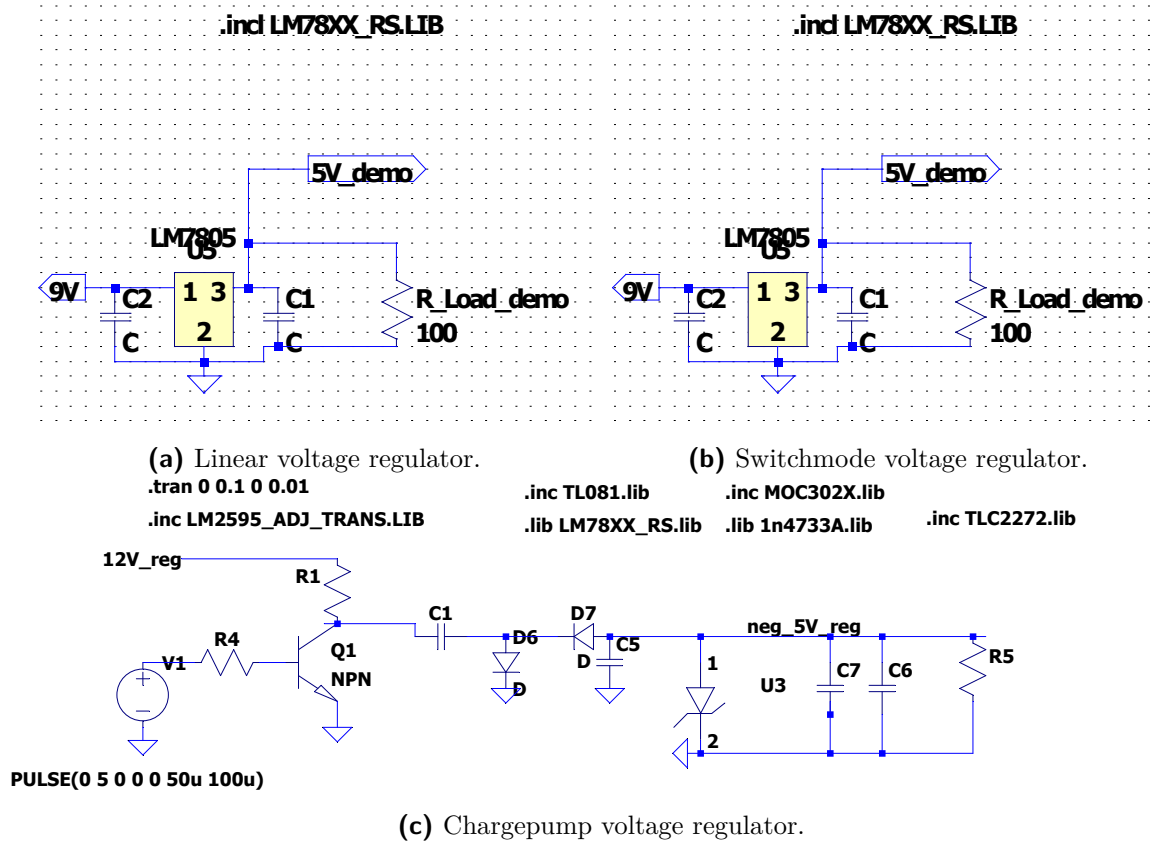

Figure 2.1: Circuit diagrams of the two voltage regulators, and another irrelevant one
- Circuit diagram like the one in Figure 2.1. I used “print to PDF” from LTSpice, but feel free to use a cropped screengrab if you are PDF-challenged and do not have a PDF printer (there are some free PDF creators online). Also have a look at the demo video on SUNLearn.